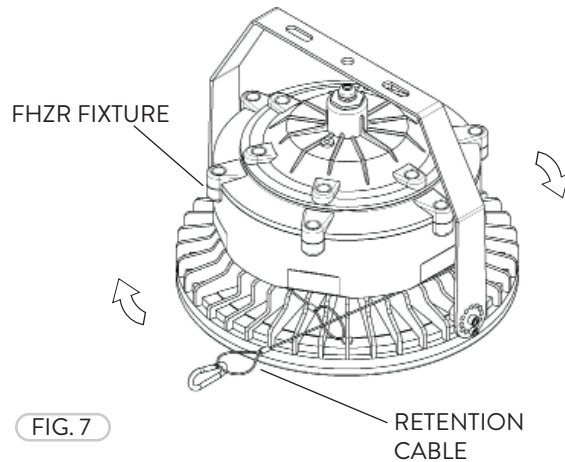

FIG. 7
- 2 Secure the Safety Retention Cable around the middle of the FHZR fixture (Fig. 7).